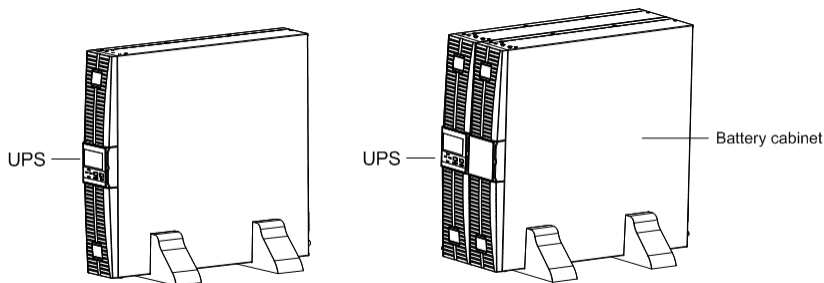

Fig.4-6 Tower installation
Step 4: Place the UPS (and battery cabinet) on the support bases. Each UPS needs two pairs of support bases to install, as shown in Fig.4-6.